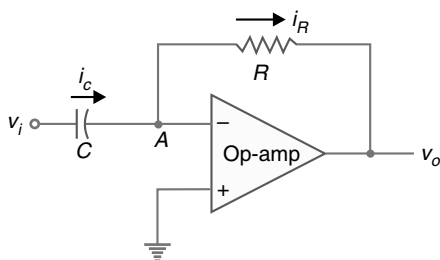
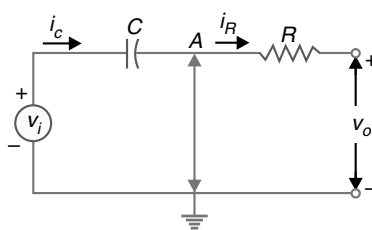

Fig. 23.88
Fig. 23.89
A differentiator is a circuit that performs differentiation of the input signal. In other words, a differentiator produces an output voltage that is proportional to the rate of change of the input voltage. Its important application is to produce a rectangular output from a ramp input. Fig. 23.88 shows the circuit of *OP*-amp differentiator. It consists of an *OP*-amp, an input capacitor  $C$  and feedback resistor  $R$ . Note how the placement of the capacitor and resistor differs from the integrator. The capacitor is now the input element.
**Circuit analysis.** Since point  $A$  in Fig. 23.88 is at virtual ground, the virtual-ground equivalent circuit of the operational differentiator will be as shown in Fig. 23.89. Because of virtual ground and infinite impedance of *OP*-amp, all the input current  $i_c$  flows through the feedback resistor  $R$  i.e.  $i_c = i_R$ .